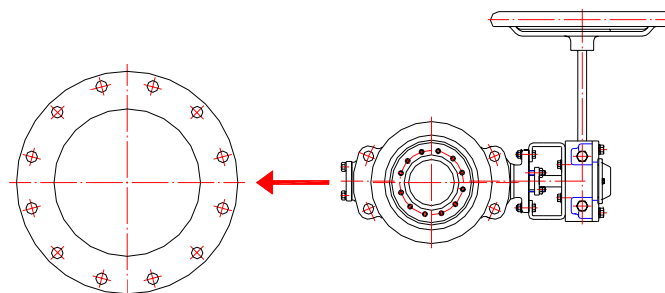

Fig.13
- 5.4. Please install the valve stem horizontally as (Fig.13), thus could prevent sand and some chips collect around bottom bushing and seat and damage the valve.